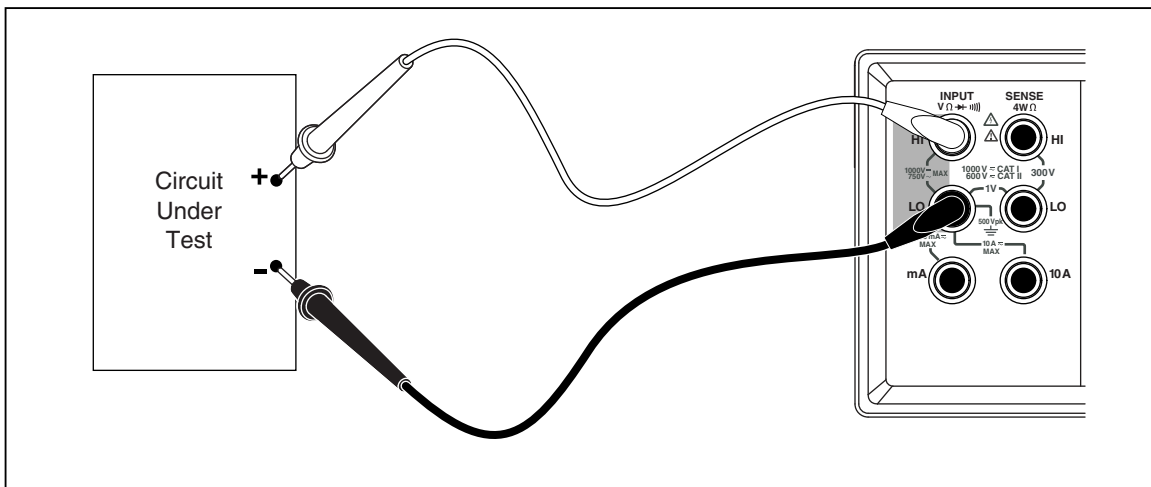

Figure 3-4. Voltage and Frequency Measurement
1. Connect test leads between the Meter and the circuit under test as shown in Figure 3-4.